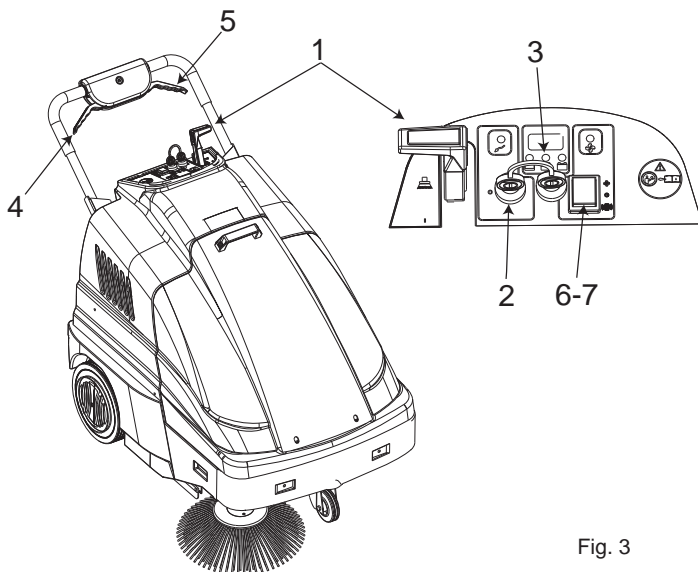

Fig. 3
- Move the brush raising lever (pos. 1 Fig. 3) to the "0" position..
- Check that the side brush pos. 1 Fig 3 is in the "0" position.
- Turn the key switch to "I" position, pos. 2 Fig. 3.
- After turning the key, wait about 10 seconds until the machine starts running. Check on the indicator pos. 3 Fig. 3 that the battery is fully charged before starting work, otherwise charge the battery.
- Activate the suction motor by moving the switch in pos. 7 Fig. 3 to "I".
NOTES Turn off the suction motor when using the machine when being moved by moving the switch in pos. 7 Fig. 3 to "0".
- Pull the drive lever pos. 4 Fig. 3 and carry out the cleaning operations. If necessary, operate the lever pos. 1 Fig. 3, moving it to position "I" to engage the side brush. After having finished work, move the side brush lever, if used, to position "0", switch the machine off and remove the keys from the control panel.
Battery life depends on routine maintenance and the level of discharge. Do not let the battery charge fall below the limit indicated by the lights in pos. 3 Fig. 3.